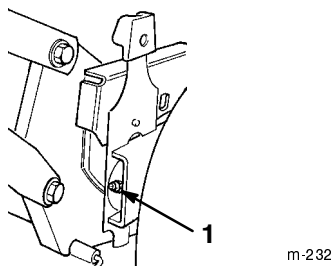

Figure 28
2. Wipe the grease fittings with a clean rag (Fig. 28).
3. Install a grease gun onto the fitting and gently apply two or three pumps of #2 multi-purpose lithium base grease (Fig. 28).